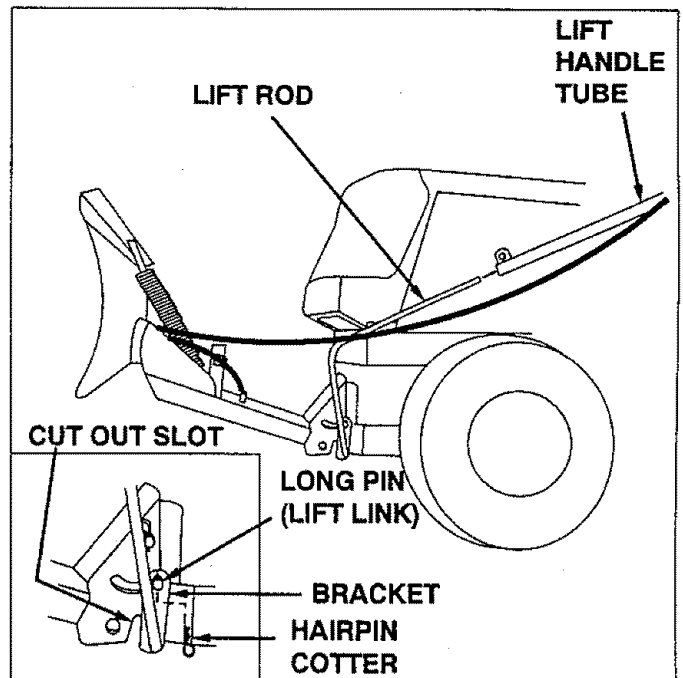

FIGURE 31
- Insert the lift rod inside the lift handle tube as shown in figure 31. Insert the other end of the lift rod in the bottom hole in the pivot support bracket and channel assembly. The hole in the link, which is welded onto the lift rod, goes over the long pin on the lift link. Secure with a hairpin cotter, which is to be put in from the bottom side of the long pin and pushed through all the way to the circle end. See figure 31.